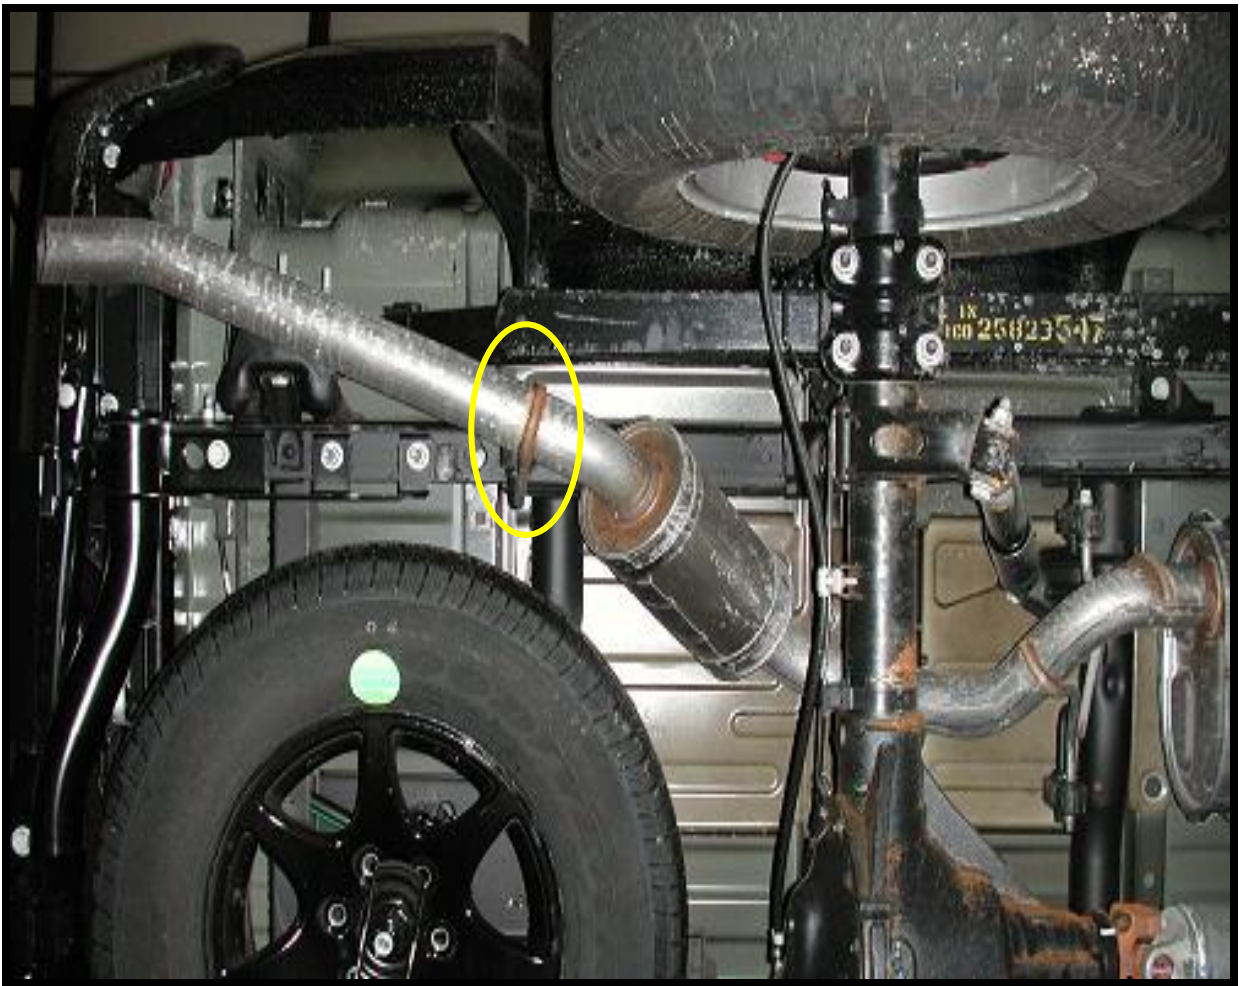

Figure 2: Rear Section Pipe Exhaust Hanger
- 3 Using a pry bar remove the exhaust hanger from the rubber isolator at the rear section of pipe and then carefully remove the section of pipe avoiding damaging the brake lines...See **figure 2**.